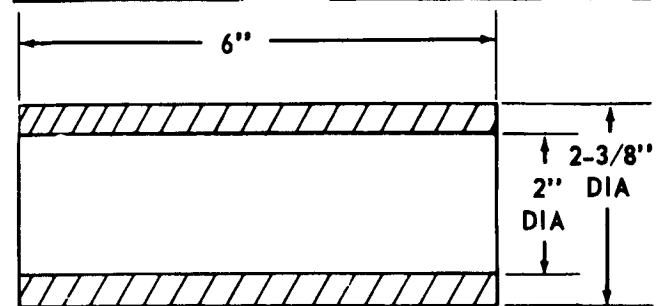

FIG. 89
1. Press inner pinion bearing on pinion using steel tubing for driver (Fig. 88). Driver dimensions are given in Fig. 89.